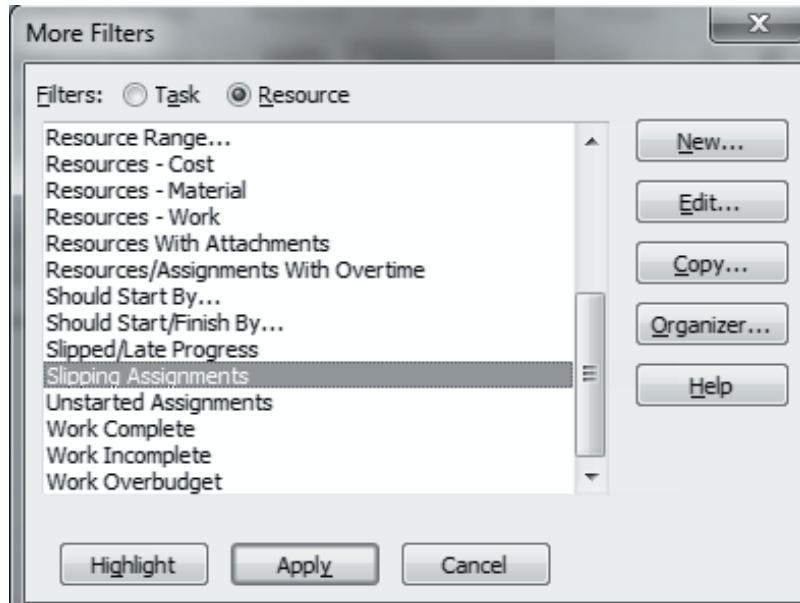

Figure 11.15: More Filters Dialog Box
2. In the **Data** group on the **View** tab, click the **Filter** drop-down list and select **More Filters...** to display the **More Filters** dialog box as shown in figure 11.15.
Figure 11.15 displays the **More Filters** dialog box.